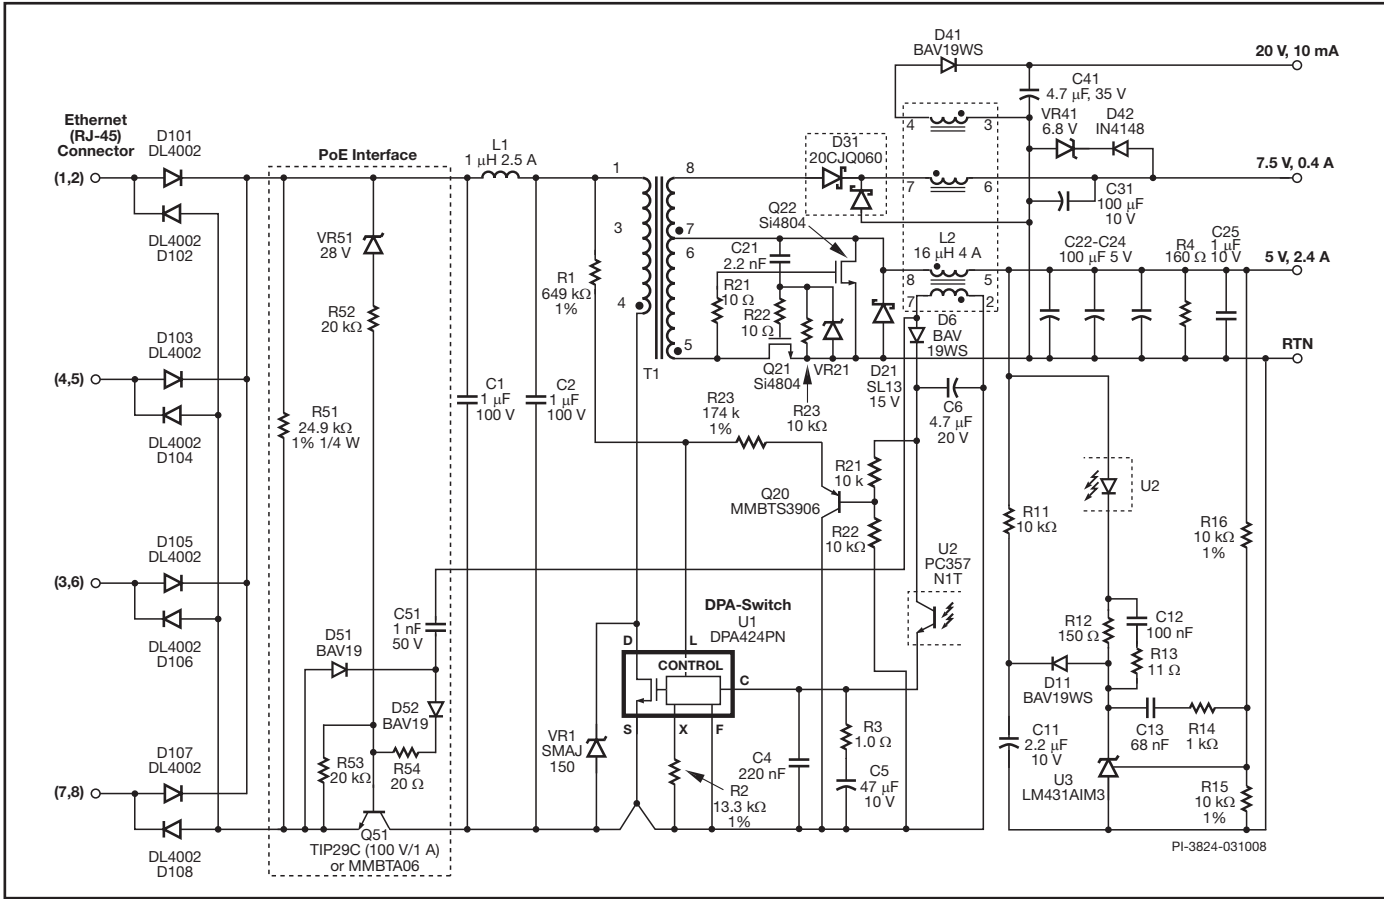

Figure 27. PoE Interface Circuit Using a Bipolar Transistor Pass-Switch and DPA424P.
controlled pass-switch. By adding this circuitry to the front end of a DPA converter, a low cost and low component count PoE powered device (PD) power supply can be implemented. Figure 27 shows a typical PD solution.
When input voltage is applied to the PD, it must present the correct discovery signature impedance in the voltage range of 2.5 VDC to 10 VDC. This impedance is provided by R51 in Figure 27.
In the third phase, the bipolar pass-switch (Q51 in Figure 27) connects the input voltage to the power supply at voltages above approximately 30 VDC (28 V-VR52). Zener diode VR51 conducts, driving the current through resistor R52 to the base of Q51. Resistor R53 prevents turn-on under other conditions. Once the Power supply has started, components D51, D52, C51 and R54 enhance the base-current drive by coupling power from the power supply bias winding.